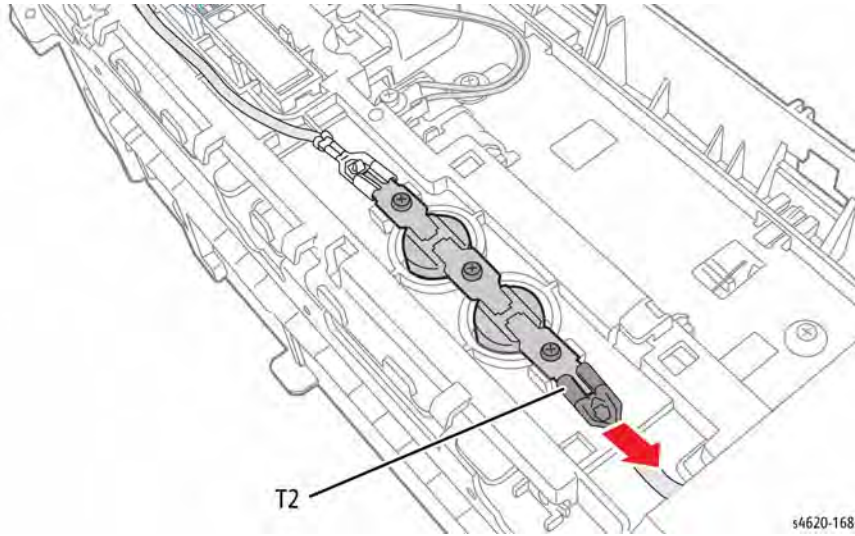

Figure 5 Disconnect the Thermostat
7. Disconnect T2 from the Thermostat, Figure 5.